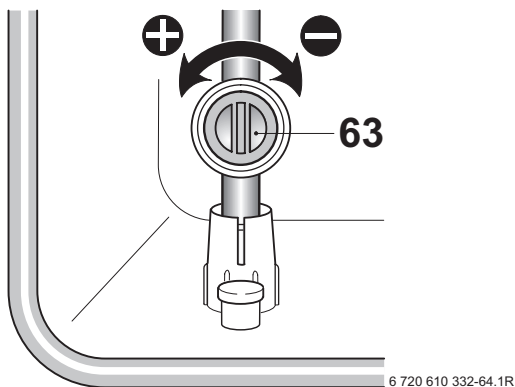

Fig. 47
- ▶ Adjust the gas flow restrictor (63) to obtain the CO₂ level given in Table 14. Refer to fig. 47.